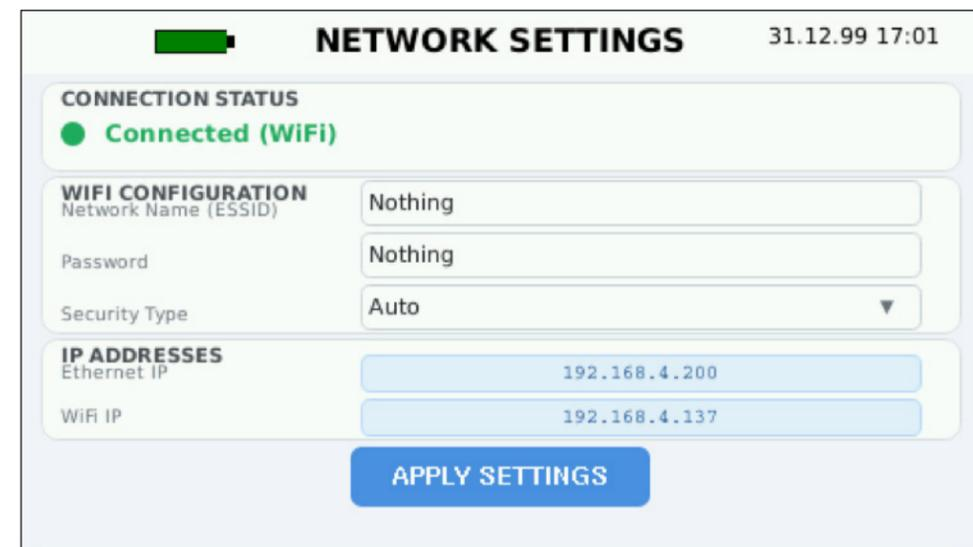

Figure 29
2. On the Network Settings screen (*Figure 29*), the current network status can be viewed, and the wireless (Wi-Fi) and wired (Ethernet) network connections on the AT-2040 may be configured.